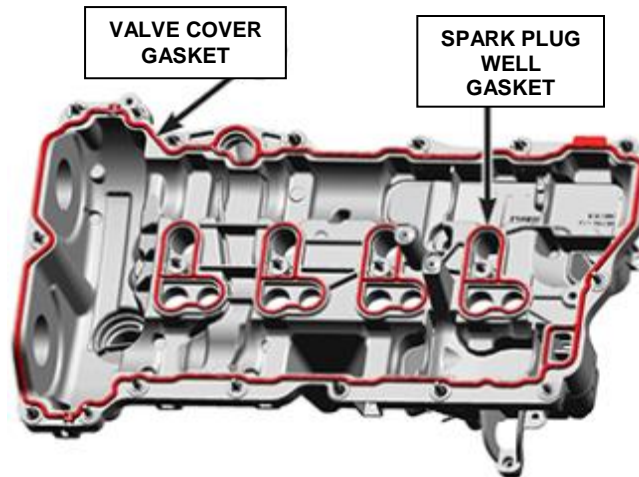

Figure 31 – Cylinder Head Valve Cover
88. Install the **NEW** cylinder head valve cover and spark plug well gaskets (Figure 31).